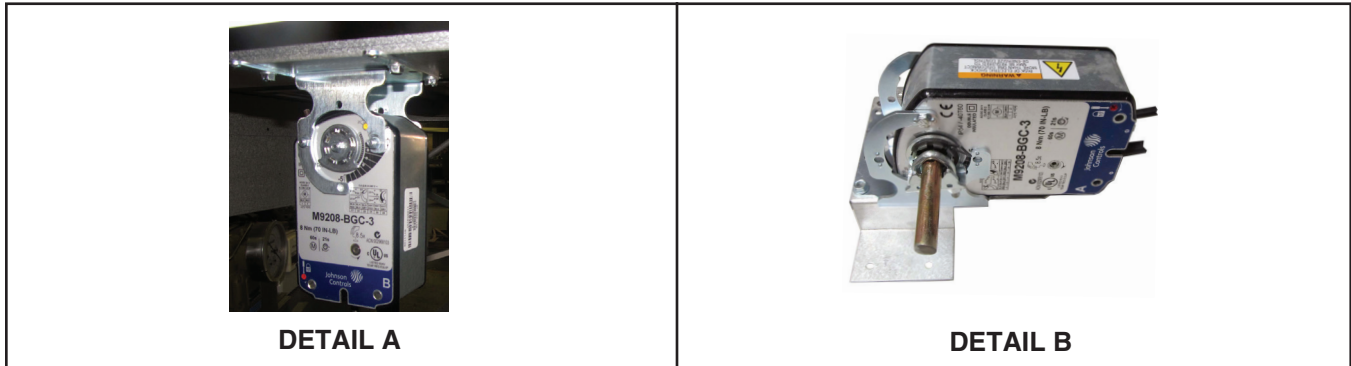

Figure 4. Replacement Damper Motor
5. Install damper motor (1):
- a. With side of damper motor (1) marked B for model CAUA (see Figure 4, DETAIL A) or A for all models **except** CAUA (see Figure 4, DETAIL B) facing out, slide motor into mounting bracket installed in step 4.